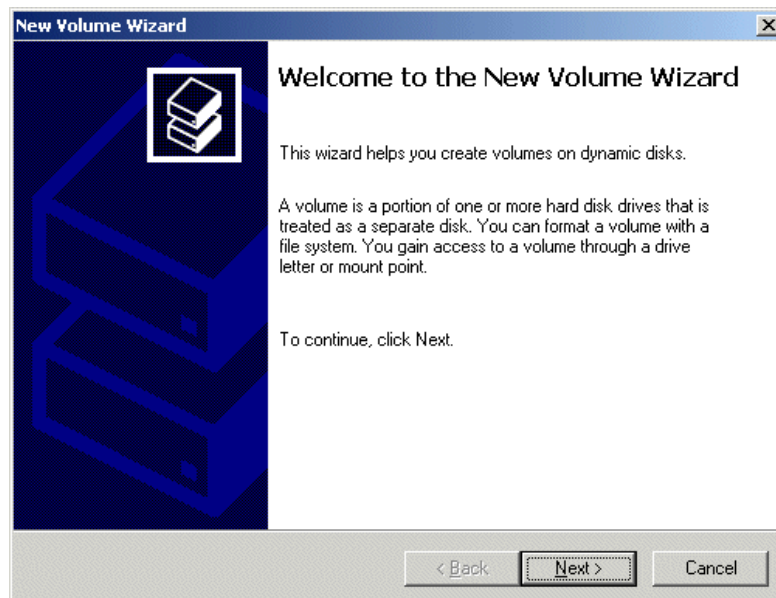

Figure 3-28. The New Volume Wizard
23) Observe the **New Volume Wizard** appear as shown in Figure 3-28.